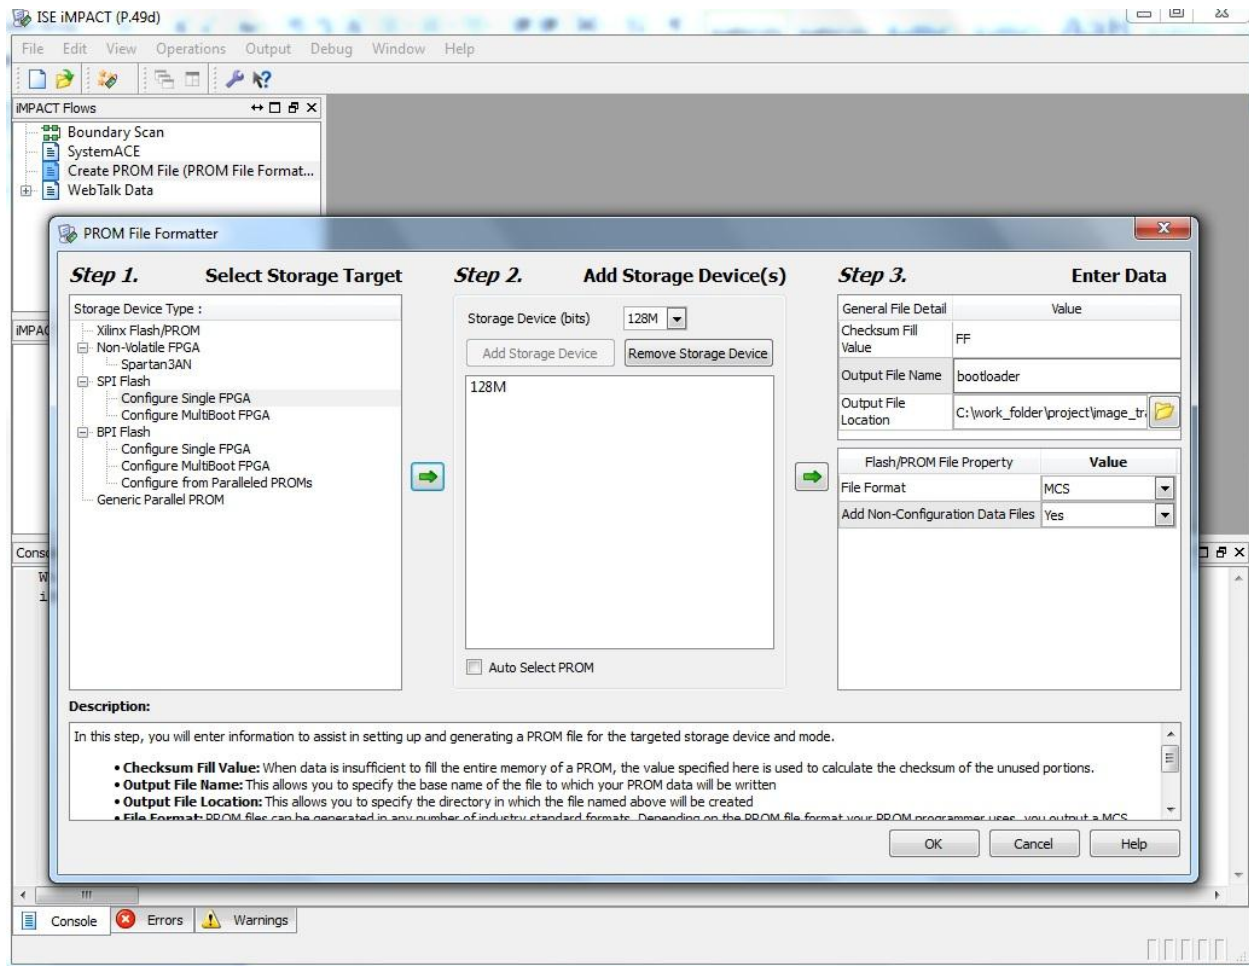

Figure 3
3. Select **Configure Single FPGA → 128M → MCS with non-configuration data files YES**(Figure 3).